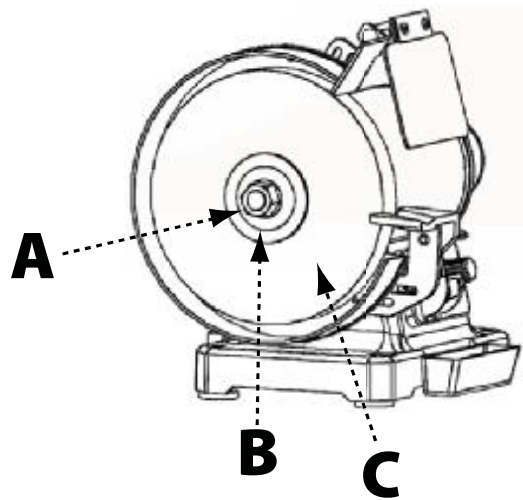

FIGURE 9
1. Remove the (3) screws securing the outer face of the wheel guard to the tool frame.
3. Using a suitable wrench, on the arbor nut (A) while using the other hand to keep the wheel from moving. Loosen the arbor nut.
4. Remove the arbor nut (A), wheel flange (B), and old grinding wheel (C), as shown in Figure 9.
8. Replace the wheel guard and secure with the (3) screws previously removed.